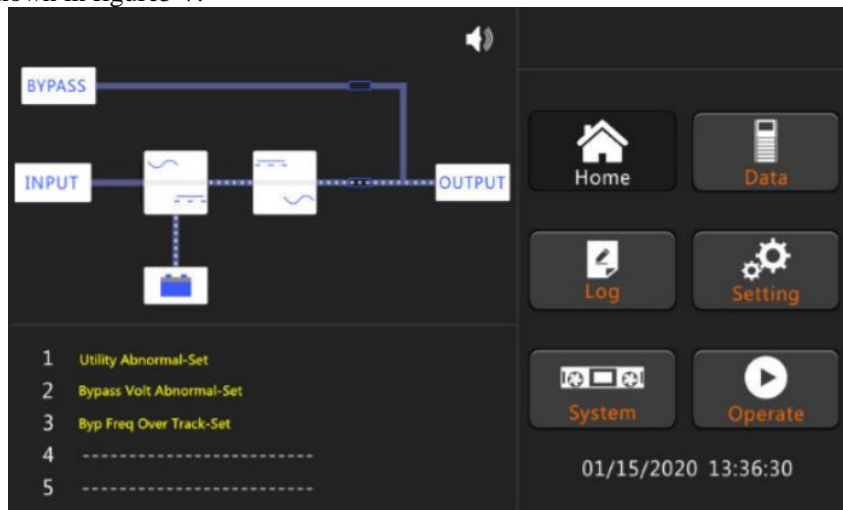

Figure5.7 Energy flowing diagram of the start completed from batteries
3. Then UPS starts up after step 3 normal mode, the rectifier completes the start, and the inverter begins to start, and after 60 seconds, the inverter complete the start, UPS run in battery mode, as shown in figure5-7.